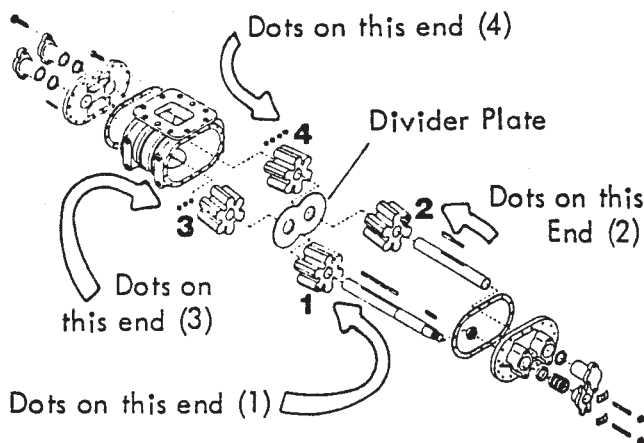

Figure 29. Etnyre P-15 Pump
3. Remove 20 capscrews from perimeter of pump end plate (see Figure 29).
Each impeller gear set uses a series of dots on the gear faces to indicate position of the gears within the pump. Refer to Figure 29. for proper positioning of the gears. The dots must face away from the divider plate (towards the ends of the pump). Install the impellers in numerical order.